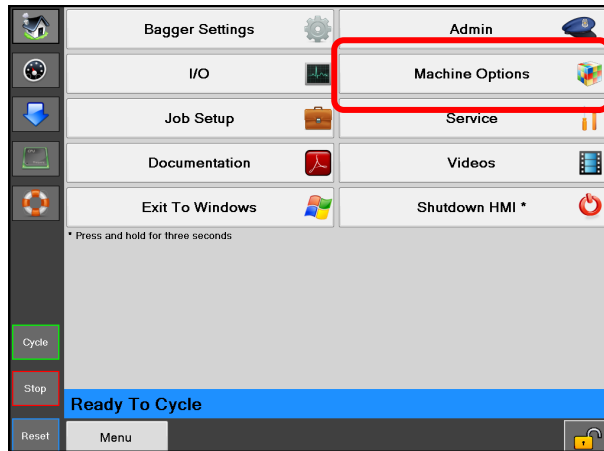

Figure 4-8A. Home Screen.
1. From the Home Screen, Press "Machine Options" pushbutton. Figure 4-8A.